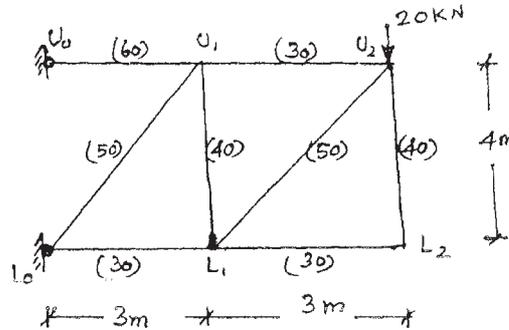

Fig. 1
11. (i) Determine the vertical deflection at point  $L_2$  for the truss shown in Fig. 1. The areas of the members in sq. cm are indicated along members in parenthesis. Assume modulus of elasticity  $E$  as 200 GPa.